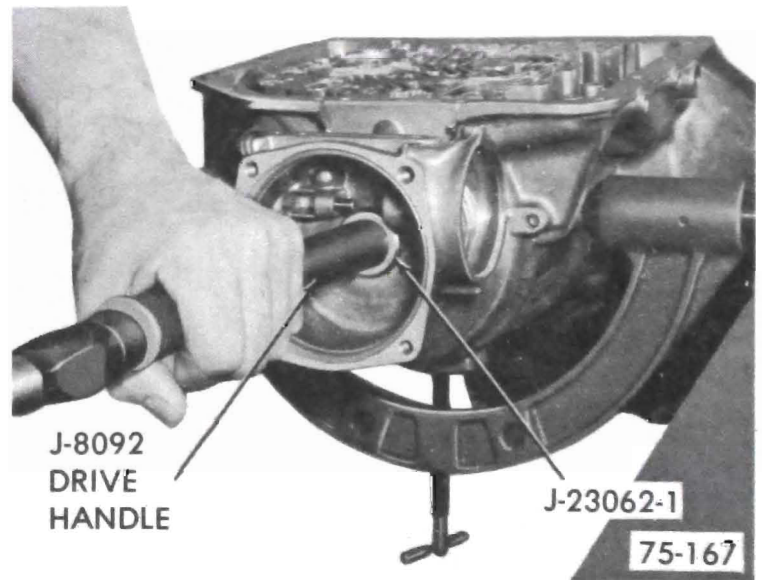

Figure 75-122
1. Inspect case bushing for nicks, scoring or excessive wear. If damaged, remove as follows: Assemble Tool J-23062-1 on Drive Handle J-8092 and remove bushing. See Figure 75-122.